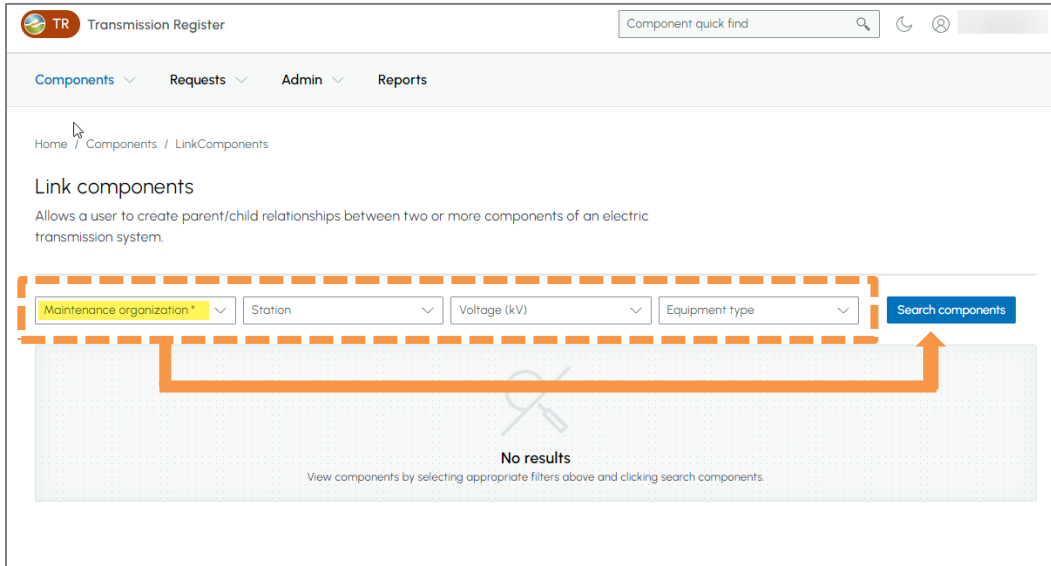

Figure 3
- 3) Select the options under the **Maintenance organization**, **Station**, and **Voltage (kV)** drop down. If needed, select the **Equipment Type**. Next, click on the **Search components** button to populate the data results (Figure 3).